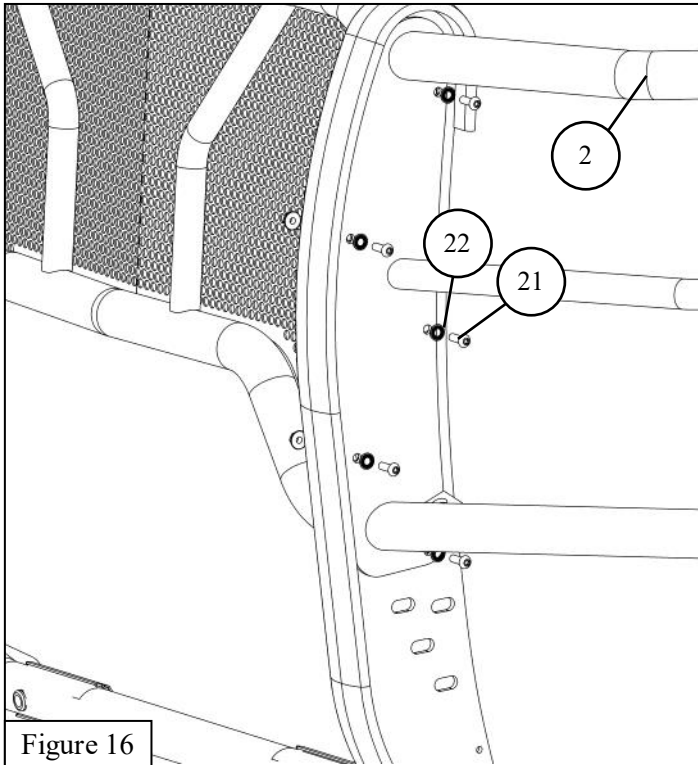

Figure 16
34. Loosely install the HDX driver and passenger wings (**items 2 and 3**) to the HDX grille guard base assembly using the M8 hardware (**items 21-23**). See **Figure 16 & 17** for reference.